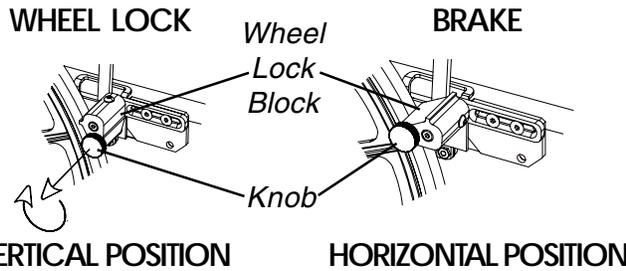

FIGURE 1 - CONVERTING THE WHEEL LOCK TO BRAKE AND VICE VERSA
CONVERTING WHEEL LOCK TO BRAKE AND VICE VERSA (FIGURE 1)
2. Rotate the wheel lock block to the horizontal or vertical position as shown in FIGURE 1.